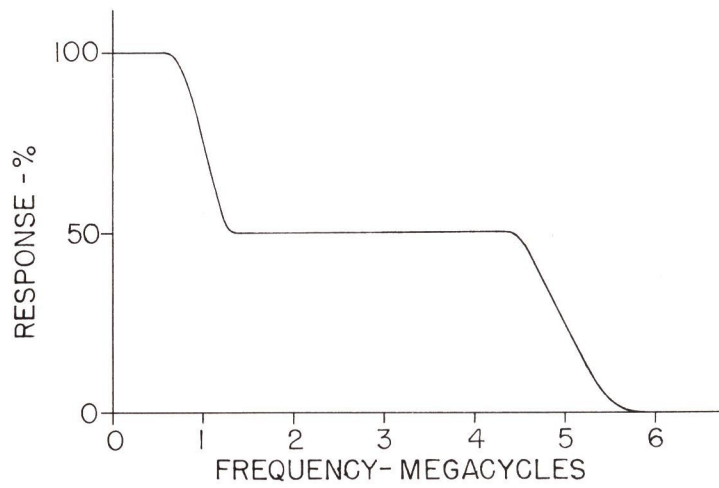

Figure 5 - Demodulated Output of Envelope Detector
The envelope detector is used to enable observation of the overall response envelope of the television transmitter when the transmitter is being modulated by a video sweep generator. For this application, disconnect the lead from the directional coupler to the converter unit at the converter r-f input jack. Reconnect this lead to the diode input jack, J3, on the i-f and power supply chassis. Connect the vertical input terminals of an oscilloscope to the 75 ohm termination resistor, MI-34002 item 3, which should be plugged into the video output jack, J2. Select a suitable horizontal sweep frequency for the oscilloscope. Place switch S3 in the ENV. DET. position, and the compensator switch S2 in the OUT position. The pattern on the oscilloscope should be similar to that shown in Figure 5.